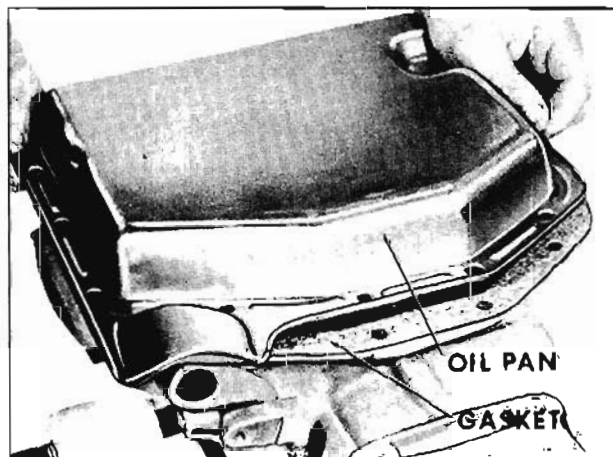

Fig. 6-473 Installing Oil Pan and Gasket
17. Install oil pan gasket and pan. (Fig. 6-473)